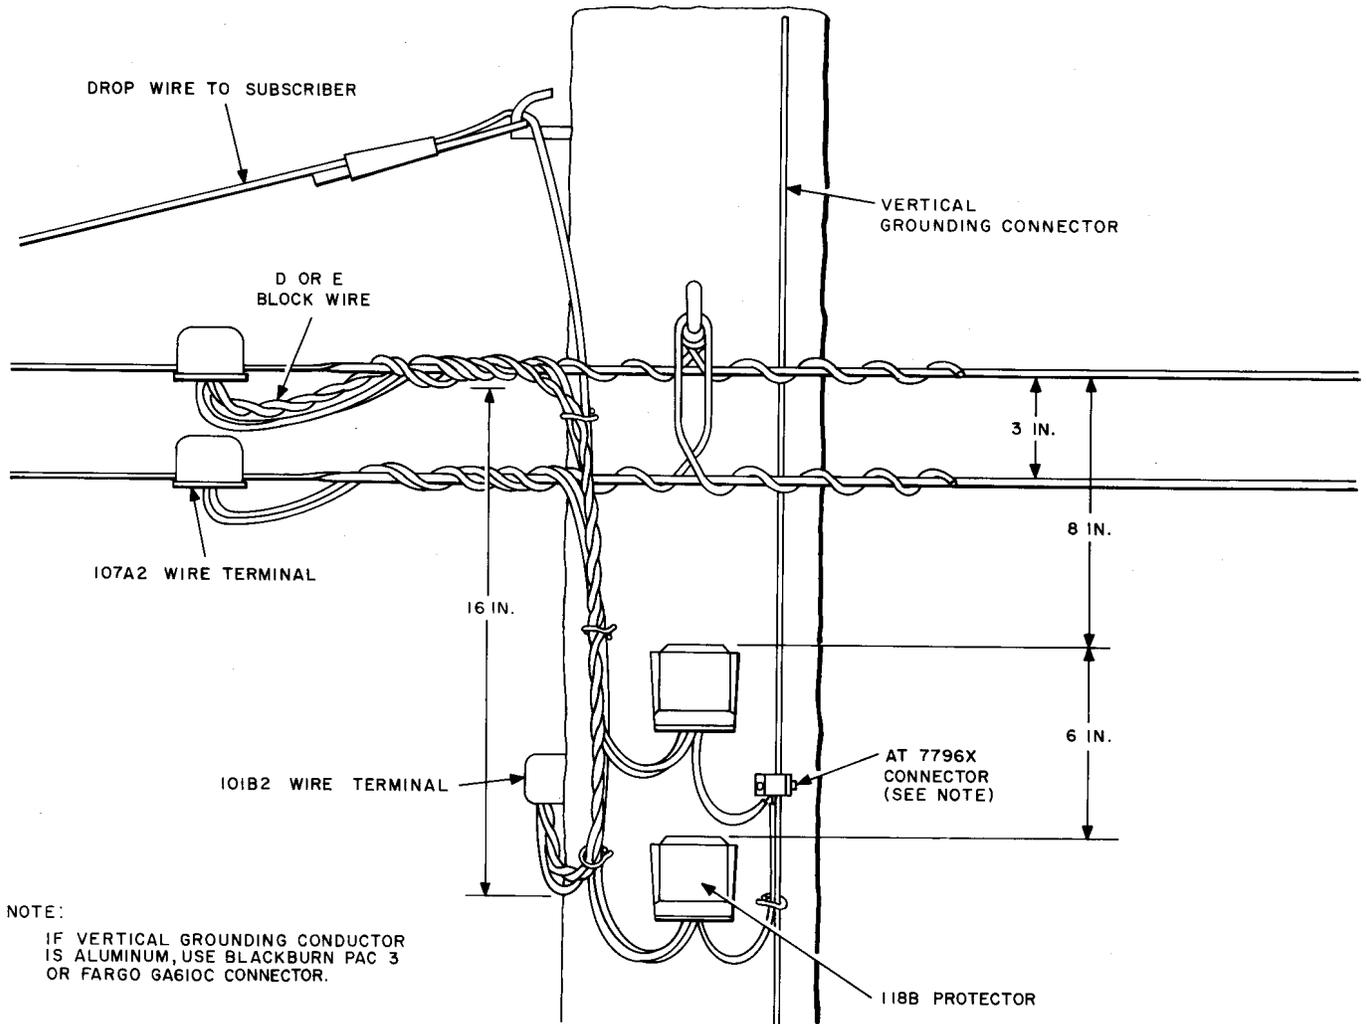

Fig. 12—118B Protectors on C Rural Wire at Intermediate Pole
4.06 Figure 12 illustrates 118B protectors installed on C rural wire at an intermediate pole. The 118B protectors are terminated on the C rural wire in 107A2 wire terminals. At least 2 feet of D or E block wire shall be used between the 107A2 wire terminals on the rural wire and the 101B2 wire terminals on the pole to serve as a fusible link between the C rural wire and the subscriber drop wire.